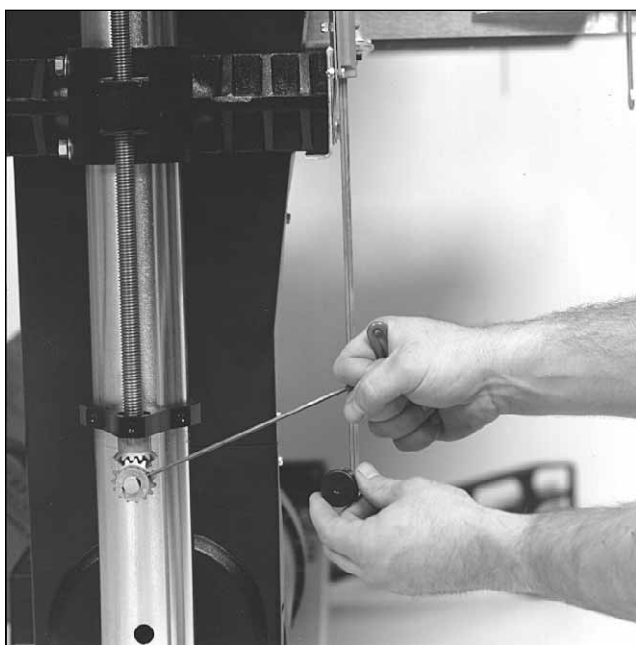
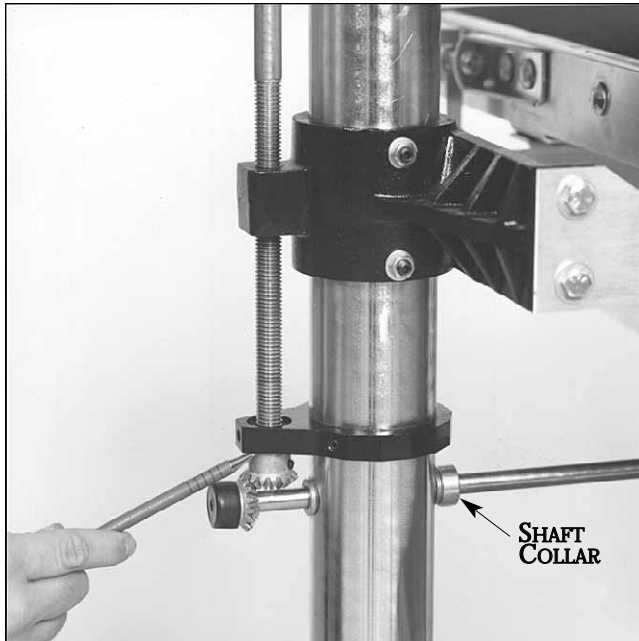

Fig. 20. Adjusting miter gears for proper mesh.
Fig. 21. Miter gear below adjusting screw support.
2. Lubricate thoroughly by applying penetrating lubricant to the table support castings where they contact the column tubes, and to all contact points of adjusting screws and cross bar (Fig. 20). Also apply oil or grease to the miter gears.
5. If the height adjustment mechanism feels rough, check the miter gear (Fig. 20) alignment. The miter gears can be adjusted on their shafts by loosening the set screws on the gears. Check and adjust so that the gear mesh is not too tight or too loose, and that the gear teeth align with the opposing gear. Note that the shaft collars located on the cross bar (Fig. 21) should be adjusted to control the lateral movement of the cross bar to maintain accurate miter gear alignment and mesh.
The mesh of the miter gears should be smooth and even. If not, adjust the gears for good mesh (Fig. 20). Measure the space between the miter gear and the adjusting screw support that holds the height adjusting screw in place (Fig. 21). The